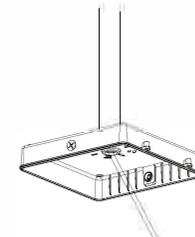

Figure 1-3
3. Fix the junction box cover on the 3/4 tube; Figure 1-3